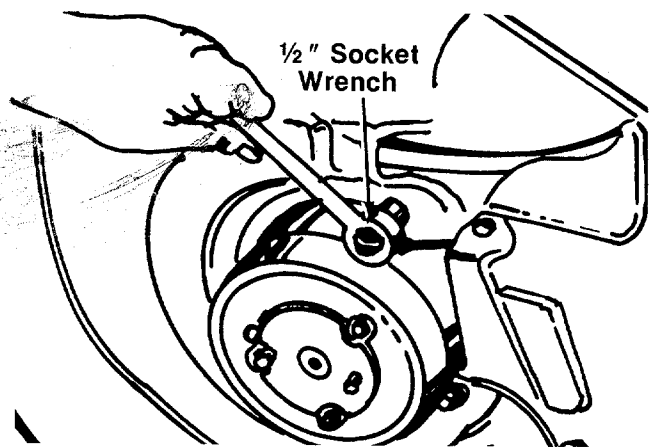

FIGURE 34.
11. Support the engine with one hand. Remove the three self-tapping screws which secure the deck and blade brake/clutch to the engine. A 1/2" socket wrench is required. See figure 34.